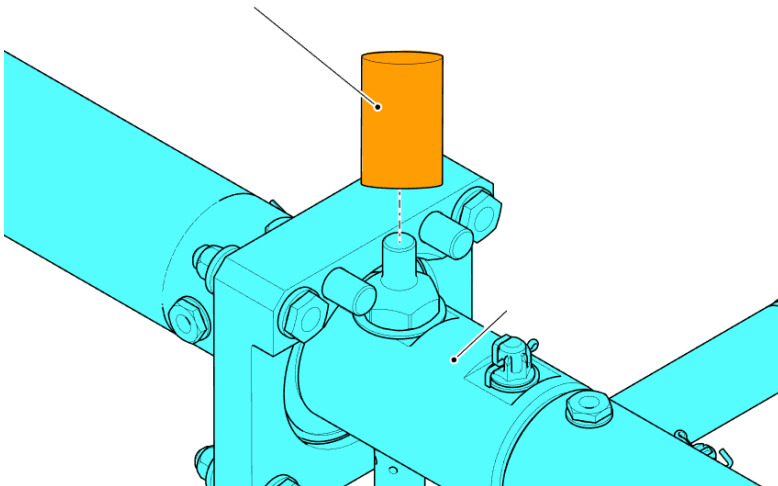

FIGURE 6 – Collective Centering Tool Installation (SLS-200-010-001)
- f. Install the SLS-200-010-001 (111493781) collective centering tool (Figure 6).
- n. Remove the SLS-200-010-001 (111493781) collective centering tool (Figure 6). As applicable, re-install M207-20M477-043 (or M207-20M477-045) co-pilot cyclic stick or RAM0359 cyclic cover.